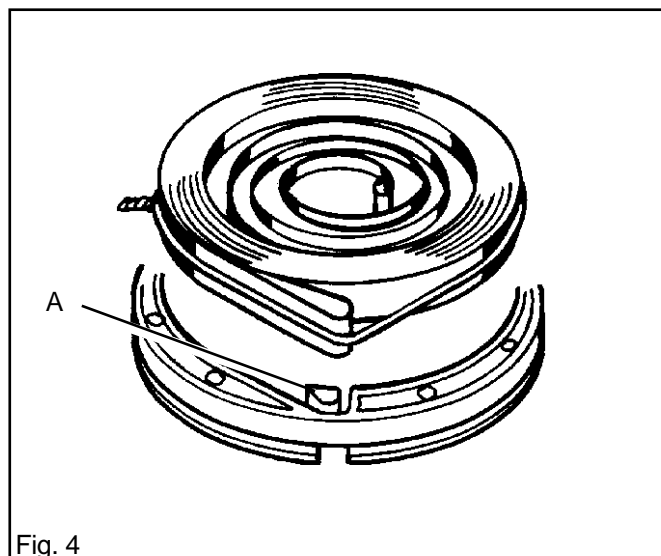

Fig. 4
1. If a new recoil spring is to be used, place the new spring, with retaining wire, such that the end loop of the spring is over the peg (A) on the cord pulley. See fig. 4.
8. Attach the flywheel puller. Tighten down the two M5 x 25-bolts approx. 10 turns. Tighten the central bolt, while preventing rotation with the holding tool, until the flywheel comes loose. See fig. 4.